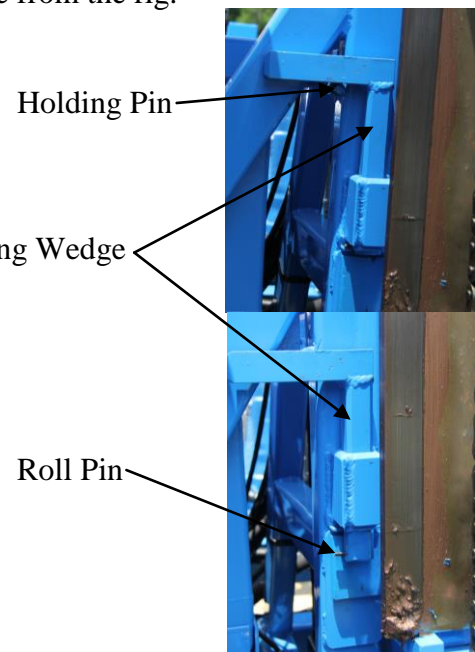

Figure 5
Lower the three (3) outriggers (jack stands – two at rear and one on tongue) to stabilize and initially level rig. See figure 4. Using pads with large surface area under outriggers will help reduce settling of rig during drilling process. Adjust outriggers to initially level rig with aid of small bubble level. Be sure that all wheels are off ground so the entire weight of rig is on outriggers. Before raising mast, be sure locking wedges are raised using holding pins and roll pins. Raise mast using mast (raise-lower) control lever located on side of rig's control panel. Once mast is in the vertical position, secure mast by using two (2) locking wedges on each side of mast. See figure 5.